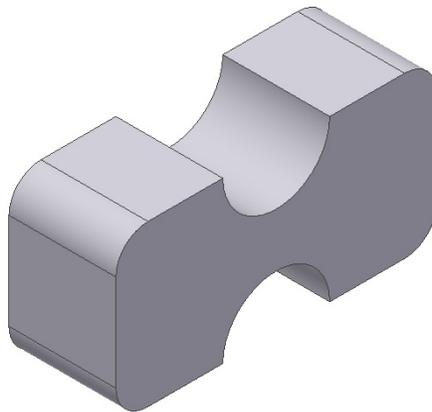

Figure 14-49 Rotated view of filleted model model.
4. Choose **OK**; the fillet is added to the model and the model looks similar to the one shown in Figure 14-49.